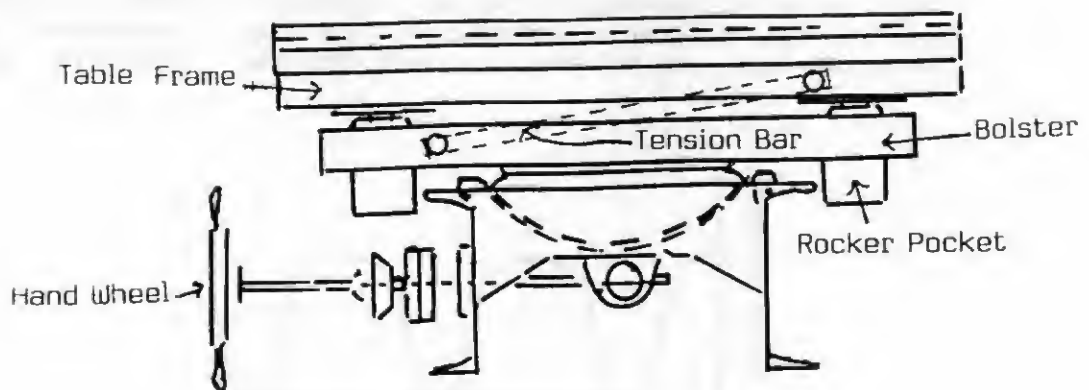

Fig. 12 The Tilting Mechanism
- (ii) Tilt of the deck: The deck may be tilted sideways, i.e. across the riffles, by way of a hand wheel that is connected to a gear which drives bolts attached the bolsters on which the rockers supporting the table are located. (See fig. 12) The forward bolster is linked to the main frame by a tension bar that removes any vibration from the concentrate end of the table.